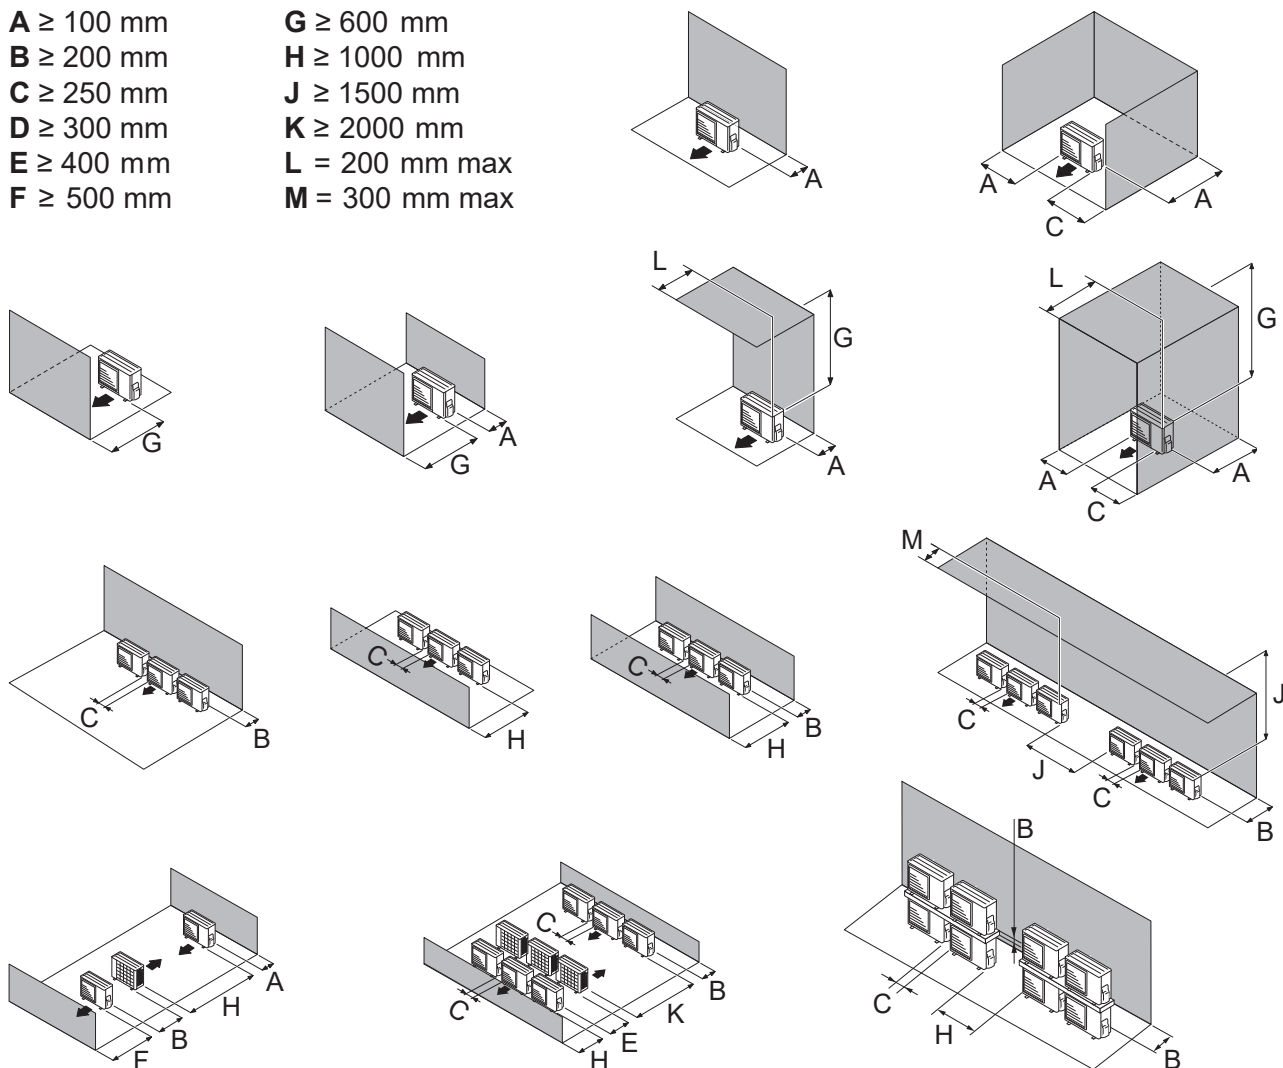

fig. 16 - Minimum installation clearances around the outdoor unit (model 5, 6 & 8)
- The unit must be easily accessible for future installation and maintenance work (fig. 16 and fig. 17, page 18).
- Nothing should obstruct the air circulation through the evaporator and out from the fan (fig. 16 and fig. 17, page 18).